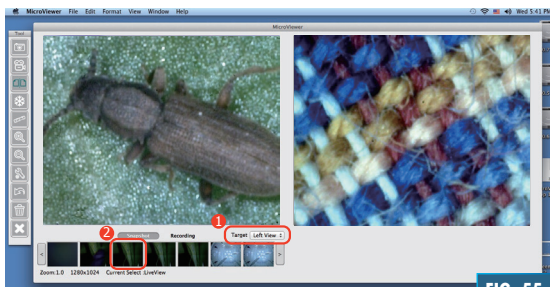

FIG. 55
2. Click the Compare button  and the compare window will appear on the screen. The live image shows on the left side (Fig. 55).